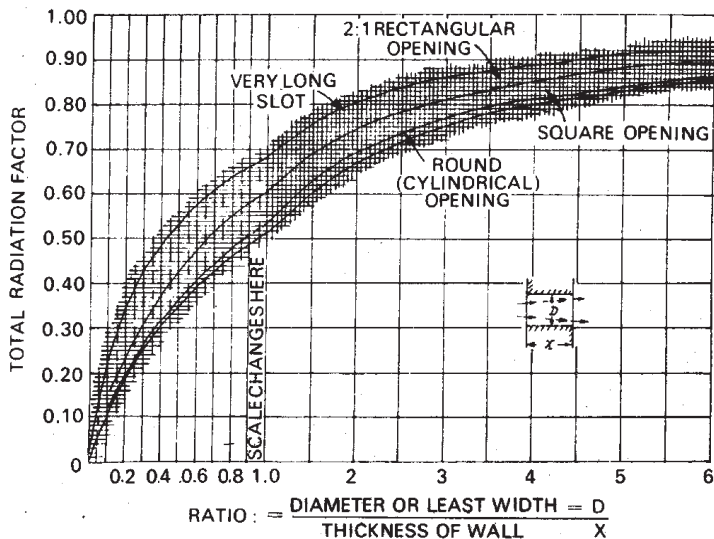
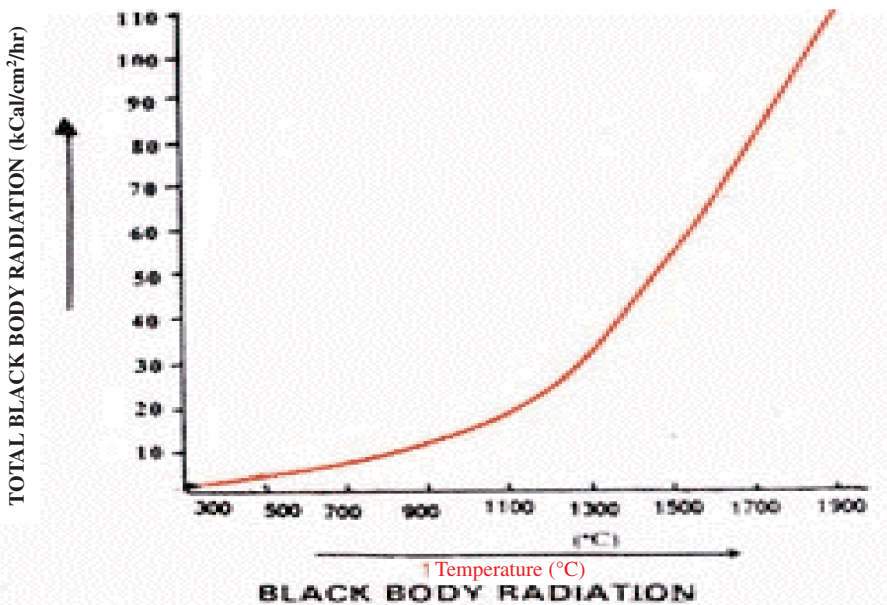

Figure 2.4 Factor for Determining the Equivalent of Heat Release from Openings to the Quality of Heat Release from Perfect Black Body
Figure 2.5 Graph for Determining Black Body Radiation at a Particular Temperature
If a furnace body has an opening on it, the heat in the furnace escapes to the outside as radiant heat. Heat loss due to openings can be calculated by computing black body radiation at furnace temperature, and multiplying these values with emissivity (usually 0.8 for furnace brick work), and the factor of radiation through openings. Factor for radiation through openings can be determined with the help of graph as shown in figure 2.4. The black body radiation losses can be directly computed from the curves as given in the figure 2.5 below.
- The factor of radiation (Refer Figure 2.4) = 0.71
- (Refer Figure 2.5 On black body radiation)